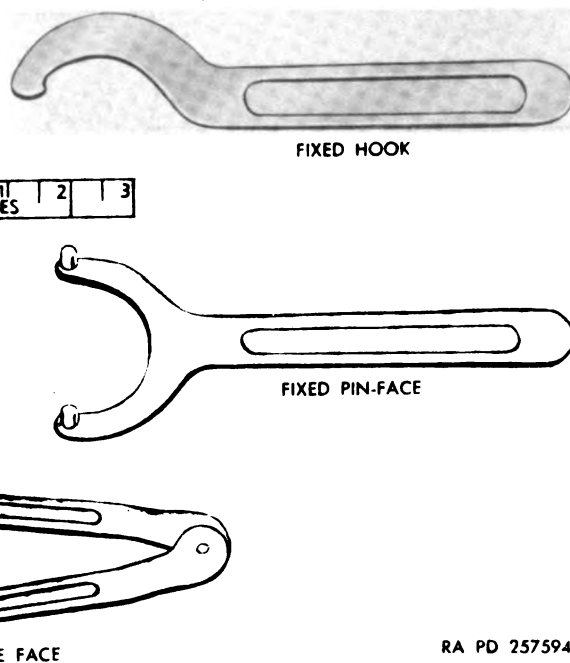

Figure 124. Spanner wrenches.
(1) *Fixed spanner wrenches.* Fixed spanner wrenches (fig. 124) are used to turn flush type and recessed retaining rings, cover plates, plugs, hose couplings, and parts which have holes or slots for insertion of the wrench pins or lugs. Each of this type spanner wrench is designed for a particular job.
(2) *Adjustable spanner wrenches.* An adjustable face spanner wrench (fig. 124) has two legs joined together with a pivot pin. The legs can be opened and closed, allowing the pins at the end of the legs to fit the various distances between holes found in many types of cover plates and plugs. Another type of adjustable spanner wrench is shaped like a hook, called an adjustable hook spanner wrench. The position of the hook can be adjusted to fit different size couplings and other parts.